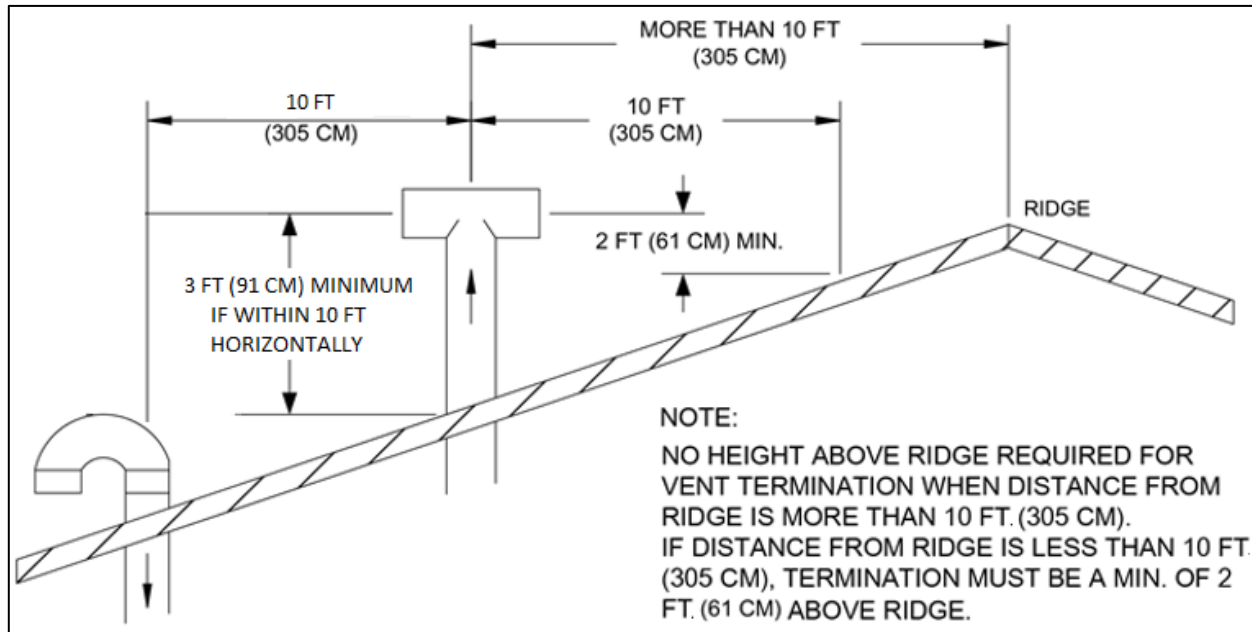

Figure 6-2: Acceptable Combustion Air Inlet & Vent Outlet Configuration
- The vent termination must be located as follows (refer to Figure 6-2):